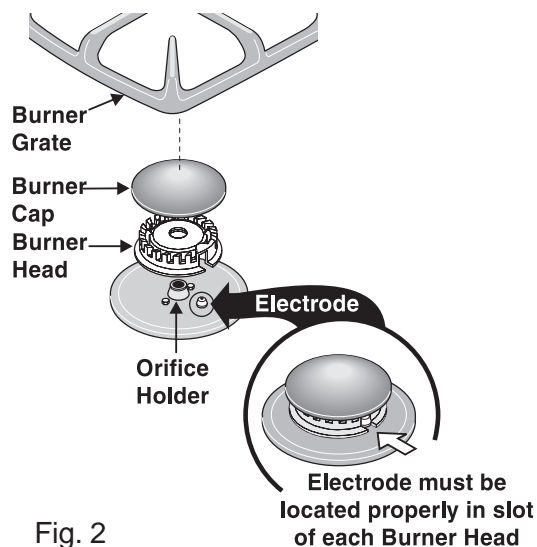

Fig. 2
2. Match the letter stamped on the Burner Skirt with the Burner Head and Burner Cap. Each of the Burner Heads **MUST** have a Burner Cap installed to insure proper ignition and gas flame size. Note: The Burner Electrodes must be located properly in slot of each Burner Head (See Fig. 2).